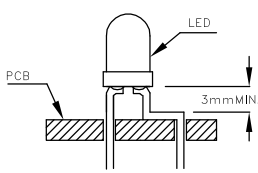

Fig. 5
- 5. Maintain a minimum of 3mm clearance between the base of the LED lens and the first lead bend. (Fig. 5 and 6)